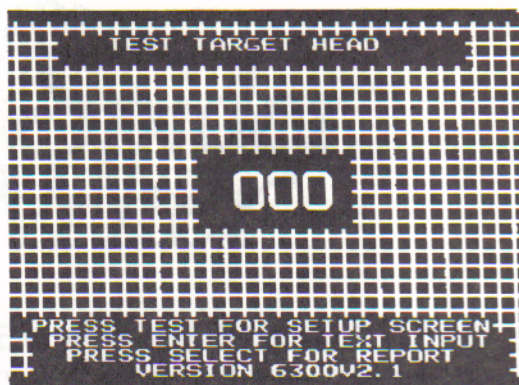

Figure 6. Test mode ready for dart head test
While the lamps are lit, the sounds of the game are played. Next the lamps will go out and the message "TEST TARGET HEAD" will appear at the top and other messages will appear at the bottom, as shown in figure 6. If you press any segment in the dart head at this time, the score should appear in the center of this screen.
4.2 Test Mode Setup and Report Screens. From the screen displayed in Fig. 6, you can select several different modes to view or change screens or operations of your dart game.
A. Setup Screen. Press the test switch again, and the setup screen for free dart sound appears. If you wish to enable this option, press enter, if not, press select. Next the screen for hattrick sound will appear. Do the same for this option. (See section 2.4 and 2.5 for description of these options.) Once both options are selected, the game will return to the selection screen (Fig. 6 except crosshatch and target head test will be gone). Pressing the test switch or inserting a coin will bring you out of this mode.